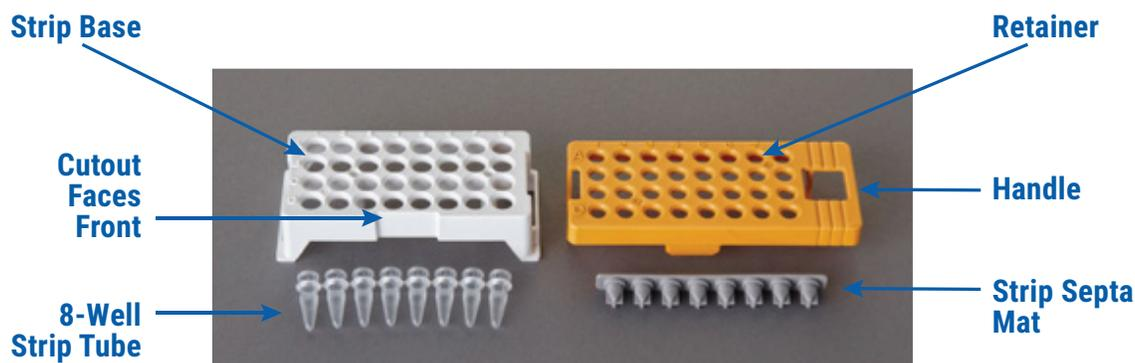
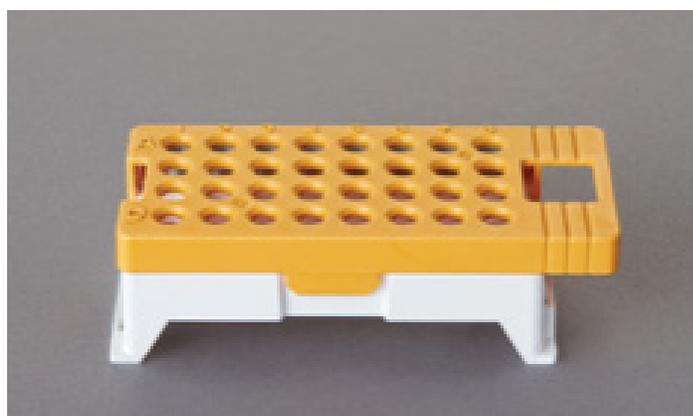

Figure 2. Assembling the Spectrum Compact Strip Base and Retainer.
Figure 3. Assembled Spectrum Compact Sample Cartridge.
Samples prepared in 8-well strip tubes are assembled into the strip base and retainer (Figure 2) to form the sample cartridge (Figure 3) which can be loaded onto the Spectrum Compact CE System. Samples are injected in groups of four, such that one 8-well strip tube can be used for two injections. Each 8-well strip tube corresponds to one lane (A, B, C or D) of the sample cartridge. Samples are injected in groups of four across a lane (not by column). For example, samples in well positions A1 through A4 are injected together, followed by samples in well positions A5 through A8 for the second injection. This pattern is then repeated for samples in lanes B, C and D. Refer to the *Spectrum Compact CE System Operating Manual #TMD058* for information on changing the order of injections during run setup.
1. Place the 8-well strip tube(s) with the Strip Septa Mat, 8-well, into the strip base (Figure 2). When using fewer than 4 strips in the run, you can place the strips in any lane.
2. To complete the assembly, place the retainer over the strip(s) in the strip base, aligning the lane names A to D and well numbers 1 to 8 on the retainer to those on the strip base and pressing until the retainer clicks into the strip base (Figure 3).